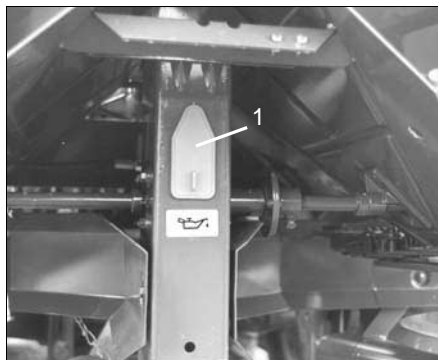

Fig. 33
- Clean and grease agitator shaft and drive chain (Fig. 33/1).